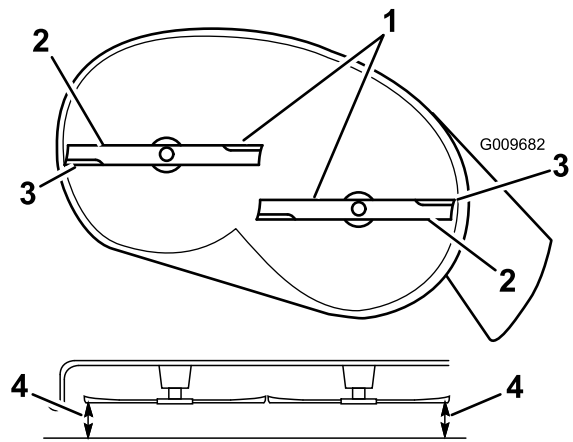
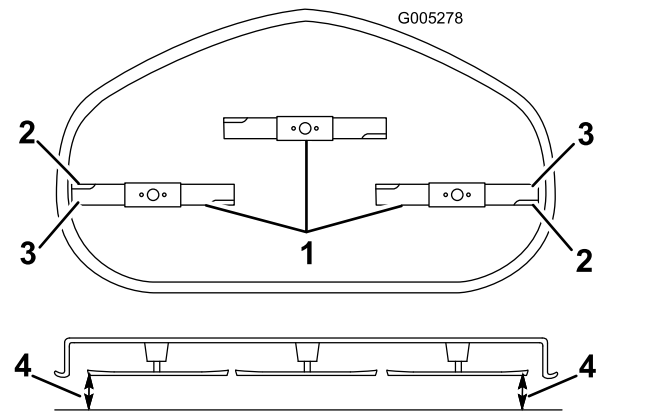

Figure 69
Figure 70
4. Carefully rotate the blades so that they are all side to side (Figure 69 and Figure 70).
5. Measure between the outside cutting edges and the flat surface (Figure 69 and Figure 70).